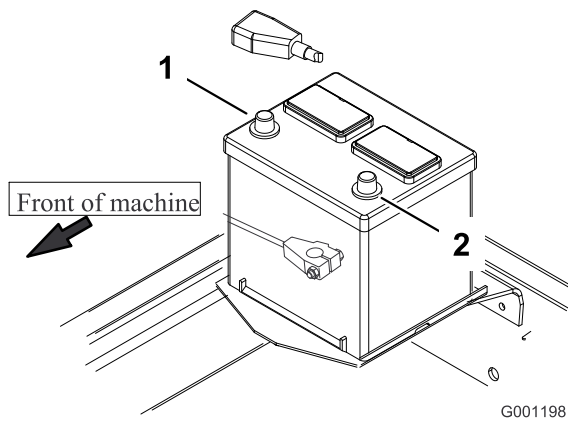

Figure 11
8. Install the positive cable (red) to the positive (+) terminal and then the negative cable (black) to the negative (-) terminal of the battery (Figure 11), and slide the rubber boot over the positive terminal to prevent a possible short from occurring.